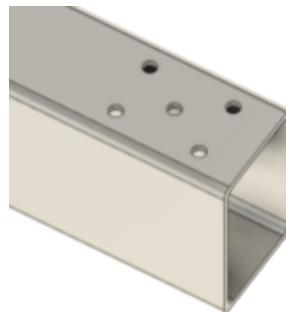

Figure 1.4
- One end of one Y-axis frame beam should have 5 holes, as shown in Figure 1.4.
- All holes except for the center hole in Figure 1.4 should be threaded to accept an M6 bolt.